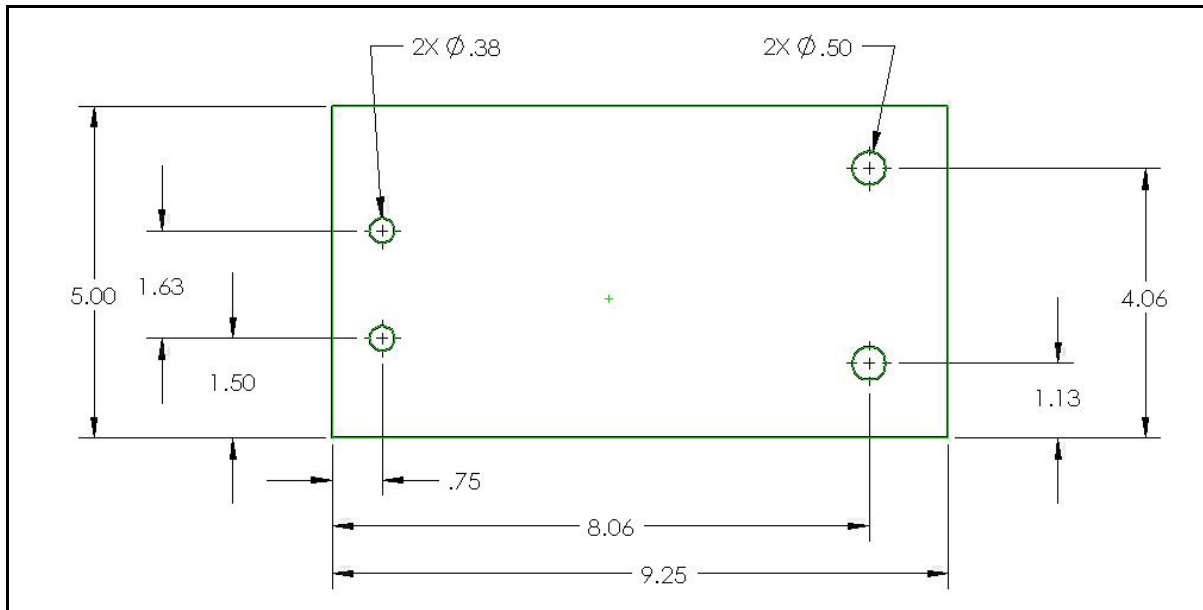

Figure 4 – Dimensional Drawing of the Filter Mounting Bracket
1. Make a Filter bracket as shown in the following dimensional drawing. See Figure 4.